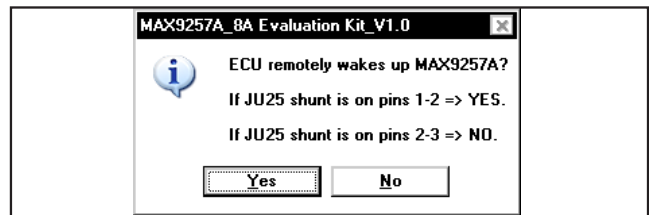

Figure 2. MAX9257A/MAX9258A Evaluation Kit Software—Load Previous EV Kit Settings
- 13) The next popup window (Figure 2) asks if you want to load a previous EV kit setting from a file. If this is the first time the software is run, you can choose from three EV kit setting files included with the software: **NeverComeBackSettings.txt**, **FiniteCTOSettings.txt**, or **I2CSettings.txt**. Press the **No** button.